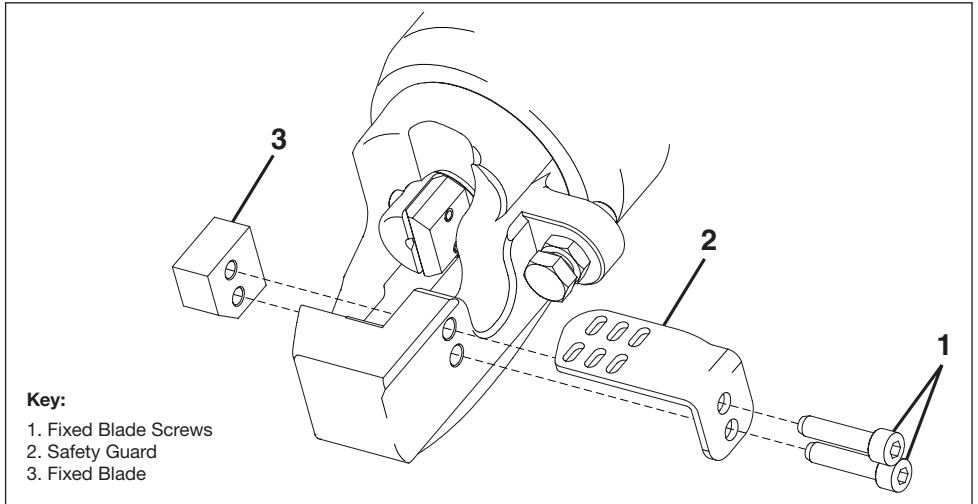

Figure 9, Fixed Blade Replacement
Replace the fixed blade as described in the following steps. Refer to Figure 9, items 1, 2 and 3.